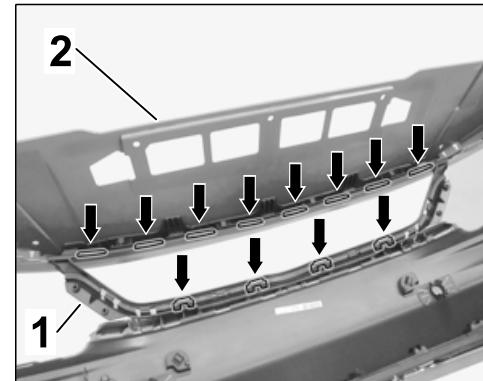

Figure 19
5.3 Clip centre grille (open)  $\Rightarrow$  Figure 19-1- into the front apron  $\Rightarrow$  Figure 19-2- ( $\Rightarrow$  Figure 19 -arrows-).